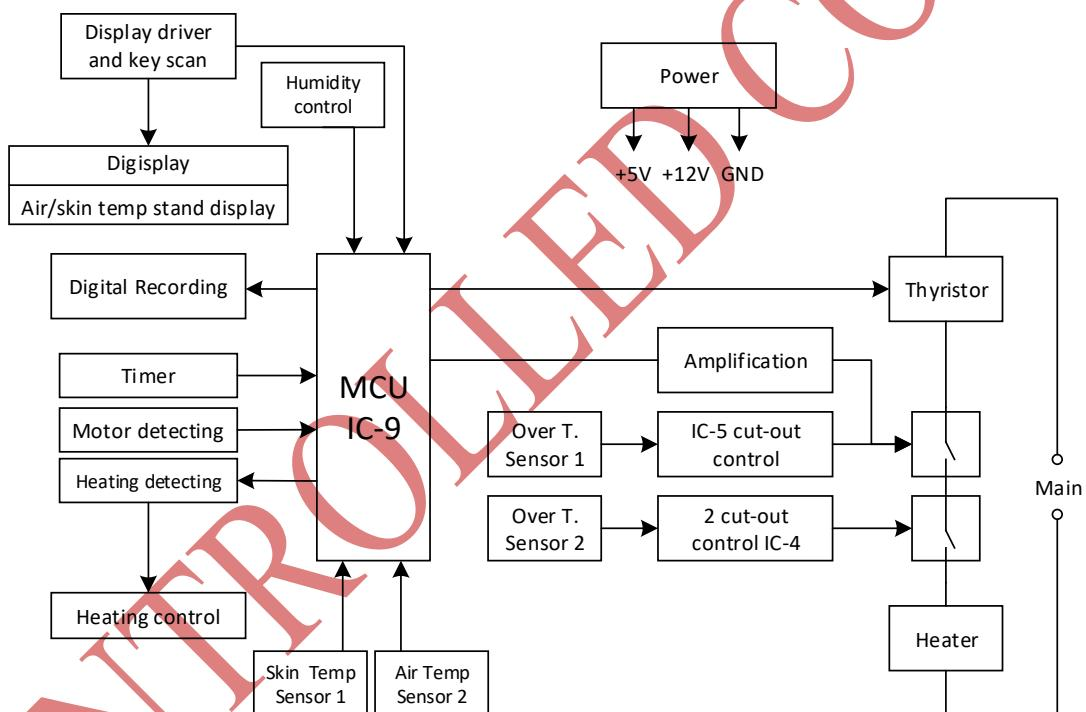

Fig.5-1 Principle picture of the hardware
5.2 Principle of the circuit (see Fig.5-1)